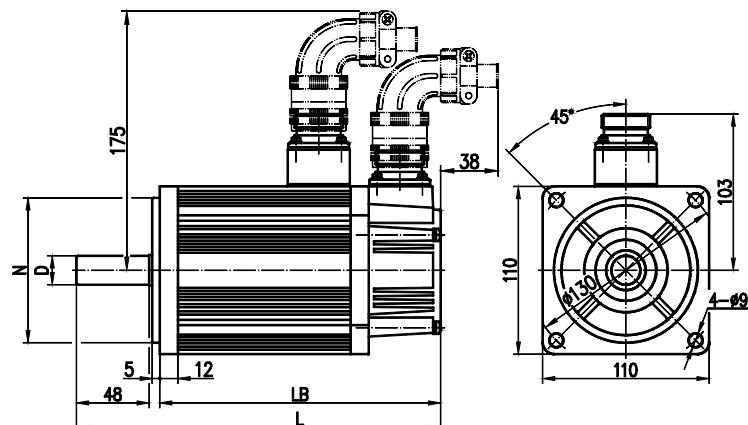

Fig. 2
5.2 Refer to figure 2 and list 7 about 110SJT series motor overall installation dimension.